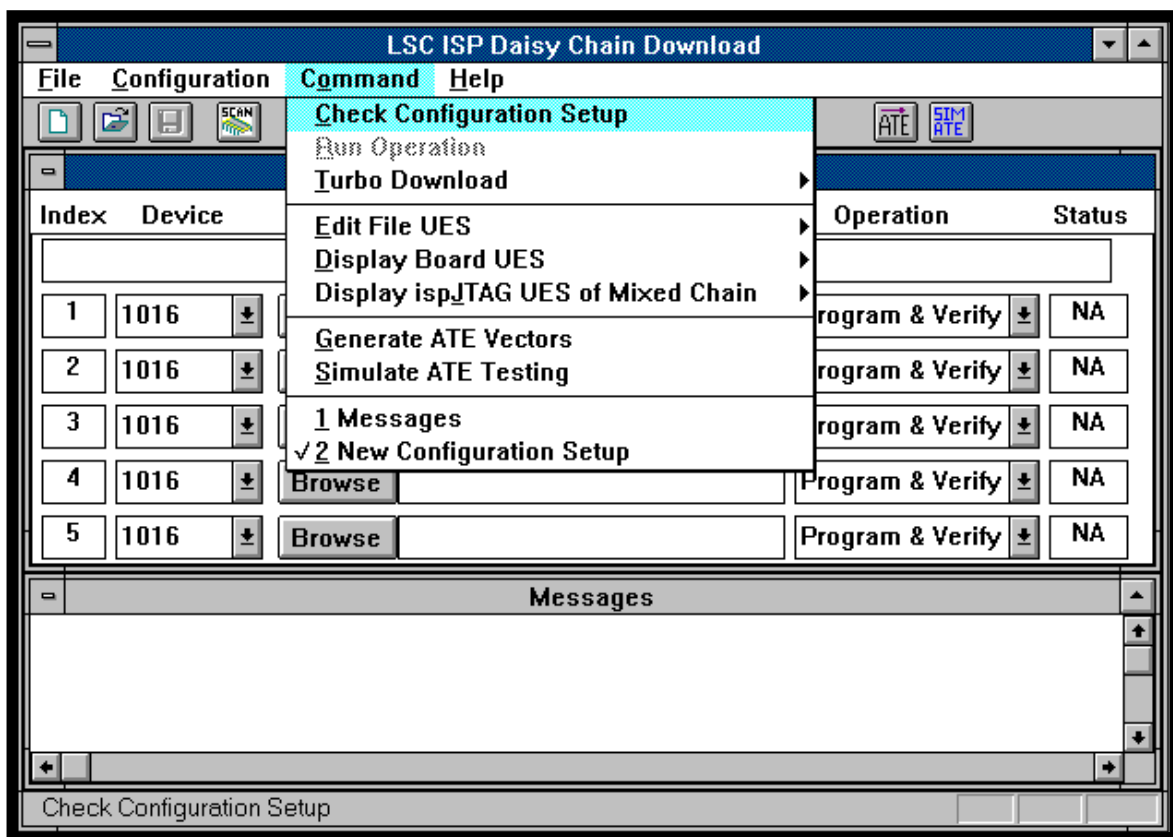

Figure 3-11. **Command** ⇒ **Check Configuration Setup** Menu Option
1. Select **Command** ⇒ **Check Configuration Setup** or click the **Check** icon from the ISP Daisy Chain Download menu (Figure 3-11).